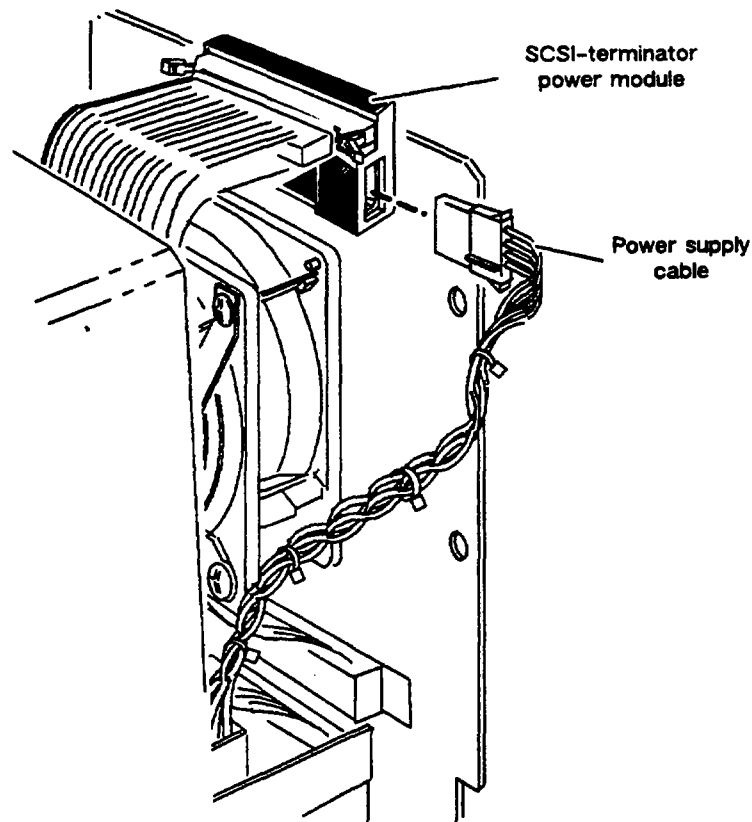

Figure 4-21 Removing the Power Cable from the SCSI-Terminator Power Module
2. Disconnect the power supply cable from the connector on the SCSI-terminator power module, as shown in Figure 4-21.
5. Plug one end of an unused power supply cable into the connector on the power module. Refer to Figure 4-21.